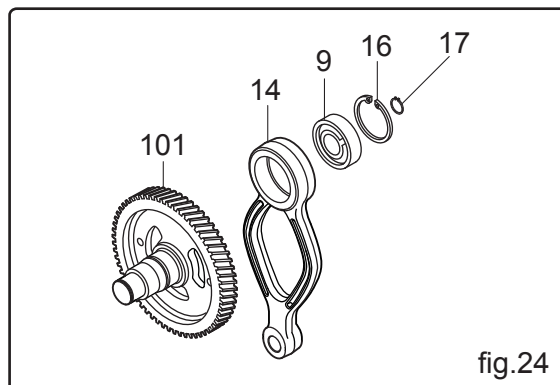

fig.24
I. Remove the connecting rod (14) from crank gear (101) with the pulley puller after removing the stop ring (17).
J. Remove the bearing (9) from the connecting rod with the press after removing the stop ring (16). (fig.24)